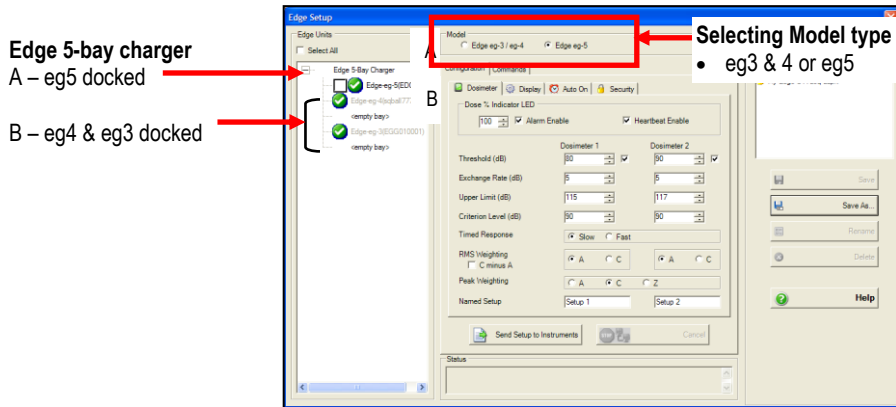

Figure 1-3: Parameter setup screen for Model eg5
**NOTE on Edge 5-bay charger:** If you are using a 5-bay charger, you may have various models docked at once as indicated in Figure 1-3. The models selectable in the 5-bay charger section is dependent on if you selected the eg3 / eg4 or eg5 models. DMS will display a green circle with a checkmark indicating a docked, powered on Edge with the serial name. DMS will also display a checkbox in front of applicable models that are selectable for communicating setup parameters, downloading data, and performing miscellaneous setup. (See “Customizing setup parameters” for more details.)